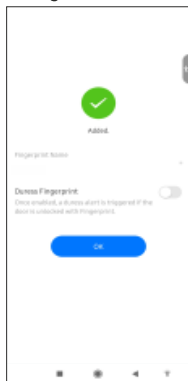

Fig. 29.
1. After successful addition of (Fingerprint, Password, RFID Card) enter the name of the Person as shown in Fig. 29.